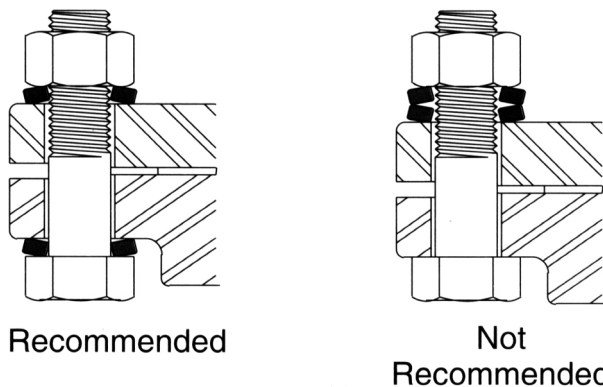

Figure 1
- B. The OD of the flange washer should contact the flange joint and the ID of the flange washer should contact the bolt head or nut. (Figure 1)